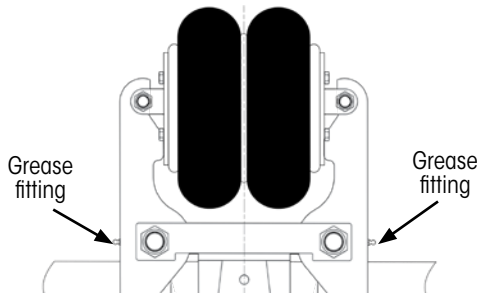

Figure 3: Locking arm lubrication
- D. Locking arm - one grease fitting for each arm Figure 3.